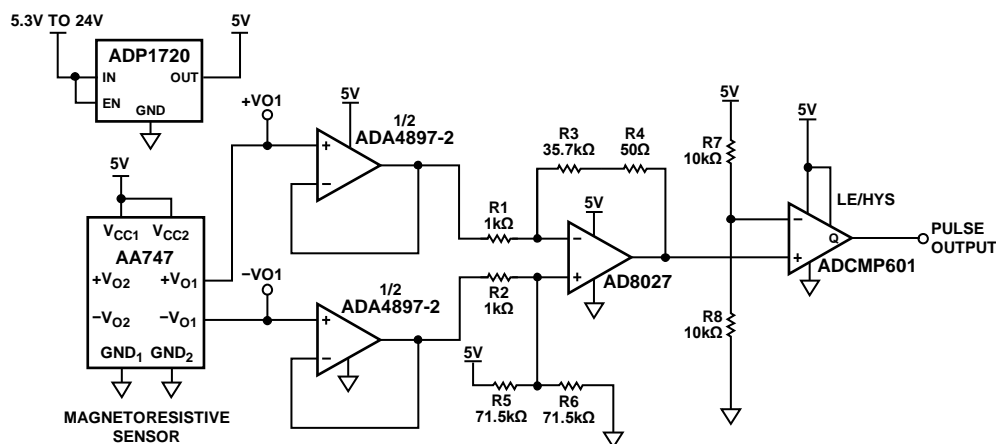

Figure 1. Magnetoresistive Speed Sensing Application Circuit
The circuit shown in Figure 1 is a single-supply, low cost, high-speed magnetoresistive (MR) signal conditioner with a minimum PCB footprint.
The application circuit shown in Figure 1 measures rotational speed using a magnetoresistive sensor and translates it to a pulse output.